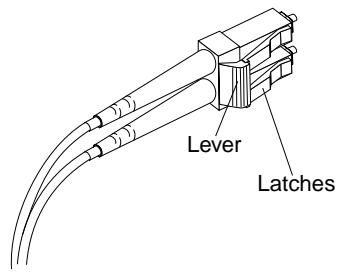

Figure 24. LC-LS Fibre Channel Cable lever and latches
1. On the end of the cable that connects into the LC connector end of the LC-SC cable adapter, press down and hold the lever to release the latches. Figure 24 on page 25 shows the location of the lever and latches.